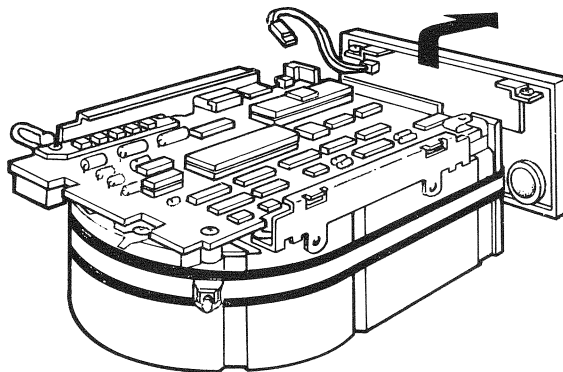

Figure 8-13 Front Bezel Removal
4. Remove the front bezel by pulling it away from the drive. The bezel is held in place with pop fasteners (Figure 8-13).